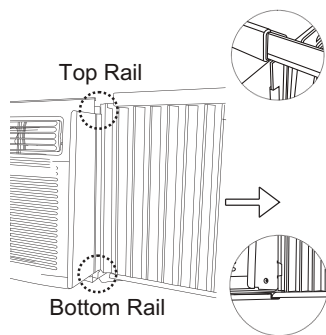

Fig.3
- C. Once installed, check to make sure panel sits securely inside the frame channel by making slight adjustments. Slide the top and bottom ends of the frame into the top and bottom rails of the cabinet. Fig. 3.